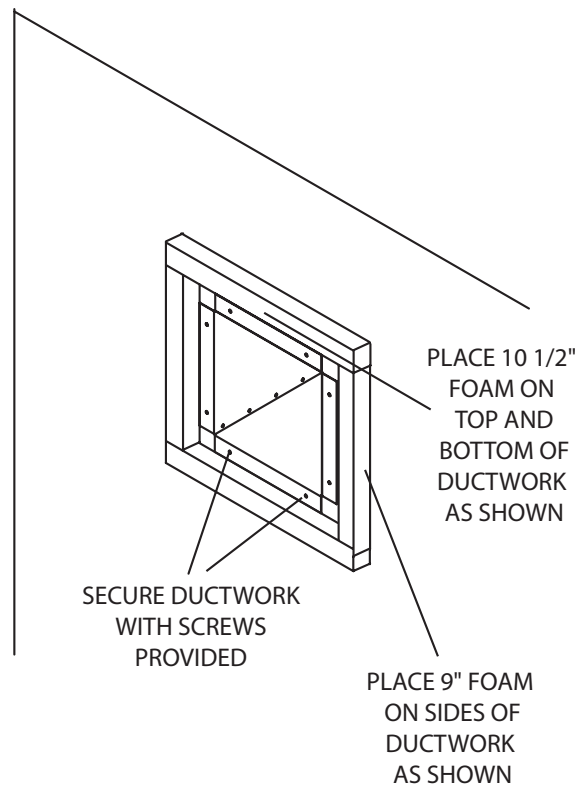

Figure 17. Placing insulating foam around square ductwork.
i. Secure ductwork with the 8 lag screws provided. Place the insulating foam around the ductwork as shown in Figure 17.